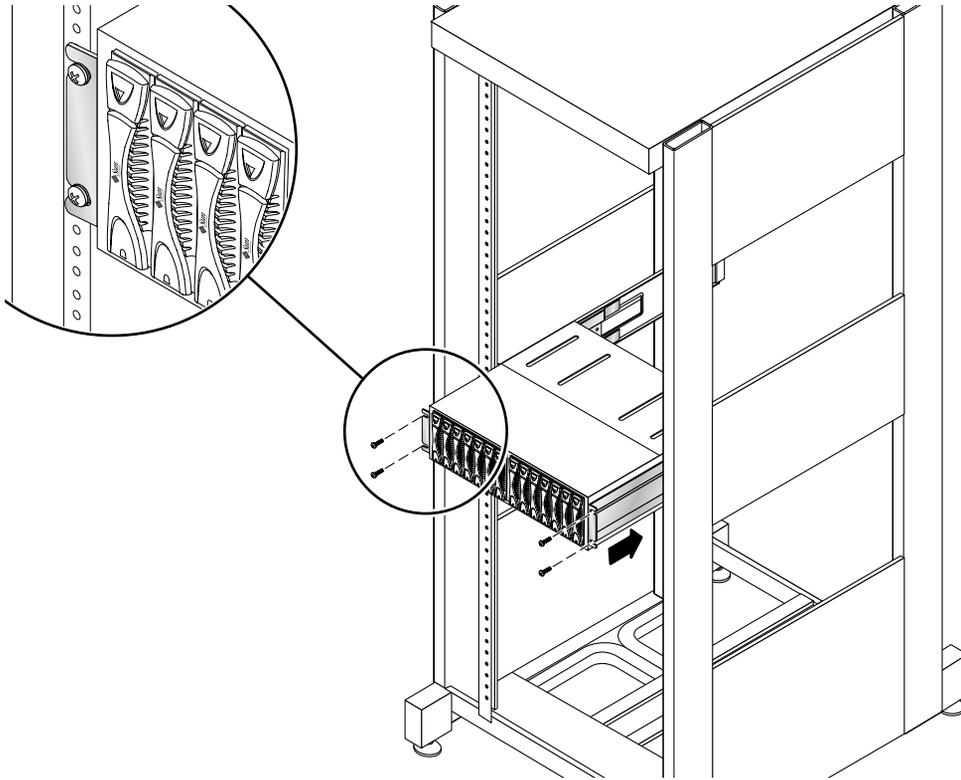

FIGURE 9 Securing the Array with the Front Screws
4. **Secure the array by tightening the screws to hold the array bracket to the front mounting rail (FIGURE 9).**